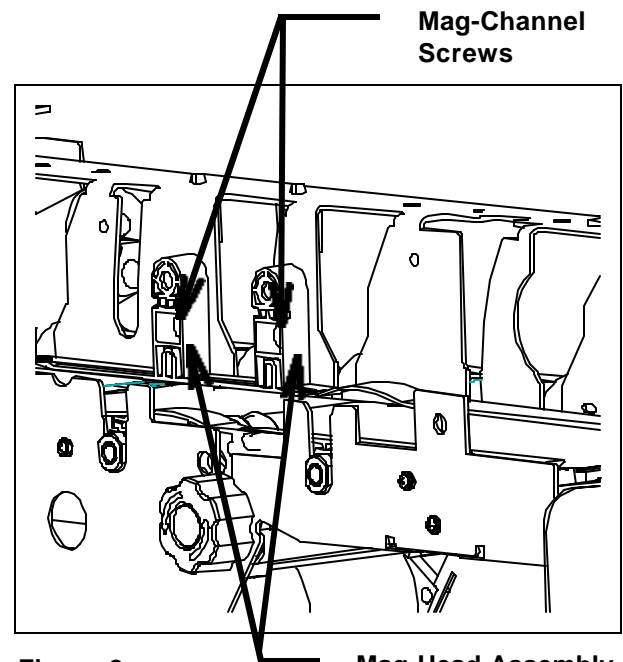

Figure 2
7. Remove (2) Mag-Channel Screws and unplug the (2) connectors to remove the Mag-Head Assembly (Figure 2). **IMPORTANT: If you see no connectors at the bottom of each existing Magnetic Head, you need to obtain a Magnetic Head Upgrade Kit first in order to perform the following steps.**
8. Install replacement Mag-Head Assembly by first plugging in the connectors and then by securing the assembly with the (2) Mag-Channel Screws. **IMPORTANT: Keep connectors away from rollers and make sure Mag-Channel is aligned and fully seated before tightening screws.**
9. Secure the Mag-Finger Assembly to the Mag-Head Assembly using (2) Mag-Finger Screws.